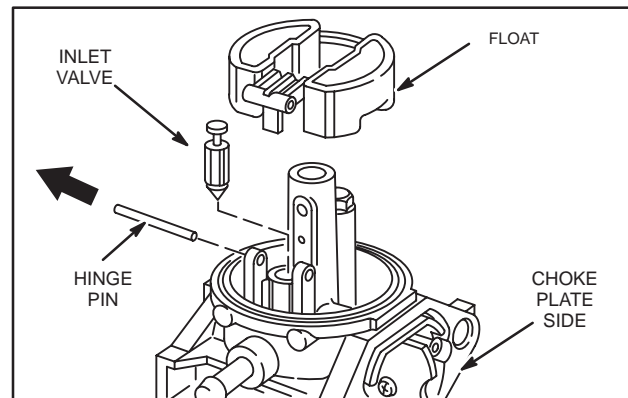

Fig. 6 – Removing Float
- Drive out float hinge pin from choke plate side of carburetor with a small punch. Remove float and fuel inlet valve, Fig. 6.